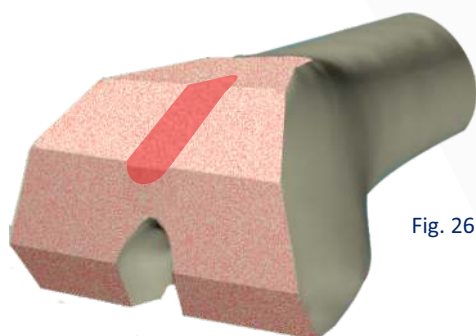

Fig. 26
- ☒ The **GKS PRIME FLEX** femoral components have a deep trochlear groove with protruded inner profile which could obstruct the proper fitting onto the resections (in particular in presence of hard sclerotic bone). It is therefore advisable to perform a light groove on the femur in correspondance of the protrusion (**Fig. 26**) using the **Rasp (S50011)** provided with the instruments set.